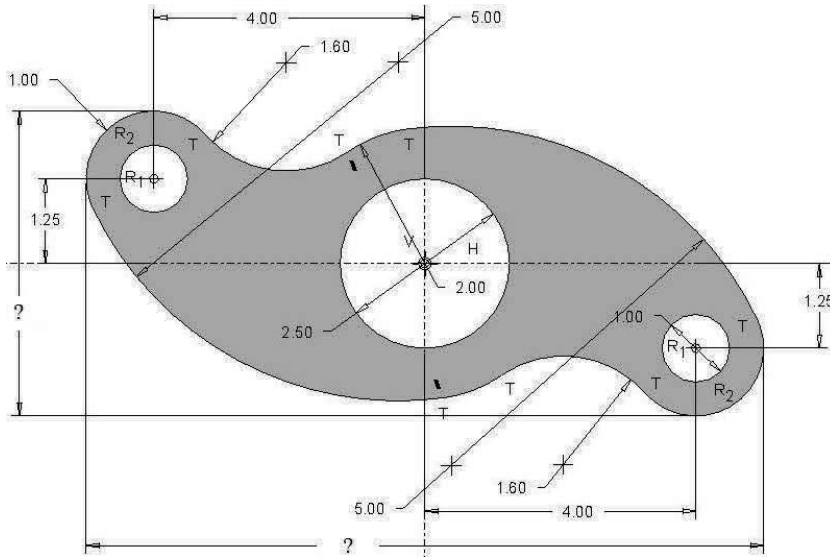

Figure 3-74 Problem 5
- 3.5 Draw the front view of the "rocker" (Figure 3-74). **Design Intent**—The rocker is symmetric about the center hole. The right 1.00-inch diameter hole must be 4.00 inches right of the center hole and 1.25 inches below it. The left 1.00-inch diameter hole must be 4.00 inches left of the center hole and 1.25 inches above it. The arcs that form the perimeter are tangent to each other. **Hint:** draw circles tangent to each other, then trim them to form the arcs.